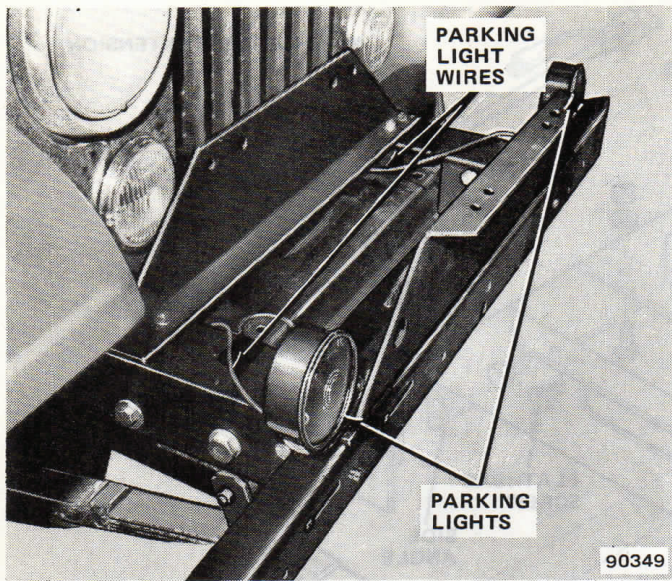
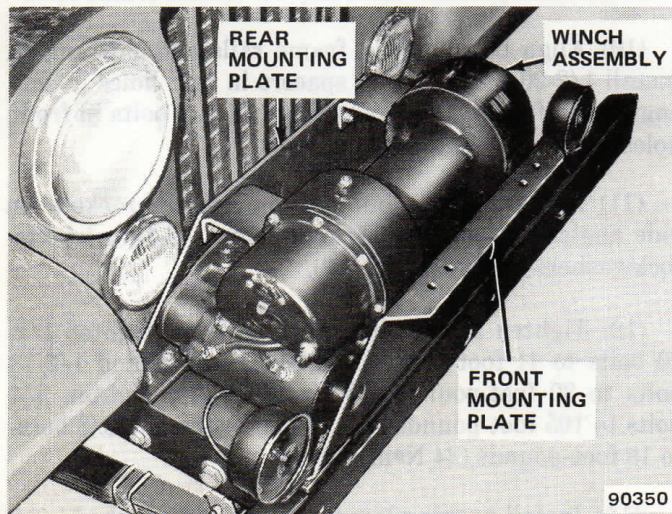

Fig. 5-3 Parking Lamp Installation
Fig. 5-4 Installing Winch on Mounting Plates
(12) Tighten all winch mounting bolts. Tighten  $1/2-20$  bolts to 41 foot-pounds (56 N•m) torque and  $1/2-13$  bolts to 39 foot-pounds (53 N•m) torque. Tighten  $3/4$  bolts to 105 foot-pounds (142 N•m) torque and  $3/8$  bolts to 18 foot-pounds (24 N•m) torque.
(13) Install parking lamp assemblies furnished in kit on parking light brackets (fig. 5-3).
(14) Install parking lights in parking light brackets (fig. 5-3). Route wire harness extensions under rear mounting plate and splice wires from parking lights to wire harness extension (fig. 5-3).
(15) Install front bumper.
(16) Using helper or chain hoist, position winch assembly on front and rear mounting plates (fig. 5-4).
(17) Align and install  $3/8 \times 1$  bolts, lockwashers and nuts that attach winch mounting brackets to rear mounting plate. Tighten bolts to 18 foot-pounds (24 N•m) torque.
(18) Align and install  $3/8 \times 3/4$  bolt that attaches winch gear housing to front mounting plate. Align and install  $3/8 \times 3/4$  flathead screw and  $3/8 \times 1$  bolt that attaches winch clutch housing to front mounting plate. Tighten bolts to 18 foot-pounds (24 N•m) torque.
(19) Install winch motor cable. Connect cable end with protective boot to motor and connect cable eyelet